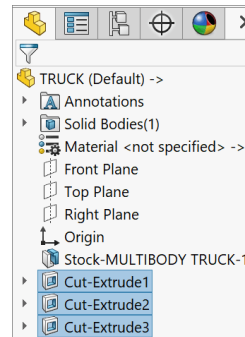

Fig. 15
Step 1. **Ctrl click all three Cut-Extrudes** in the Feature Manager to select the three features, **Fig. 15**.